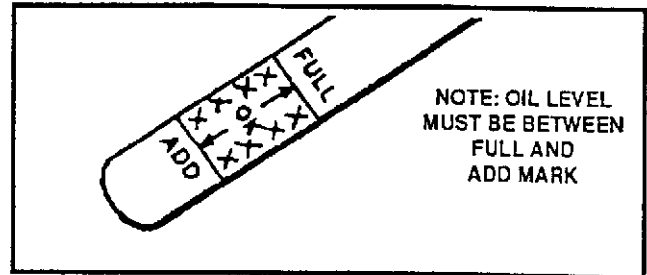

FIG. 4-MAINT
Check the crankcase oil level (See FIG. 4-MAINT) before starting the engine and after each five (5) hours of continuous use. Add S.A.E. 5W-30 motor oil as needed. Tighten fill cap/dipstick securely each time you check the oil level.